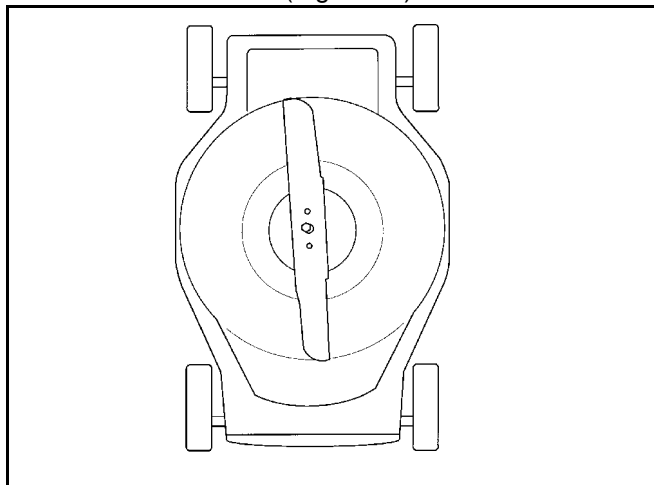

Figure 11
4. **REMOVING BLADE** - Grasp end of blade using a rag or thickly padded glove. Remove blade bolt, washer and blade (Figure 11).